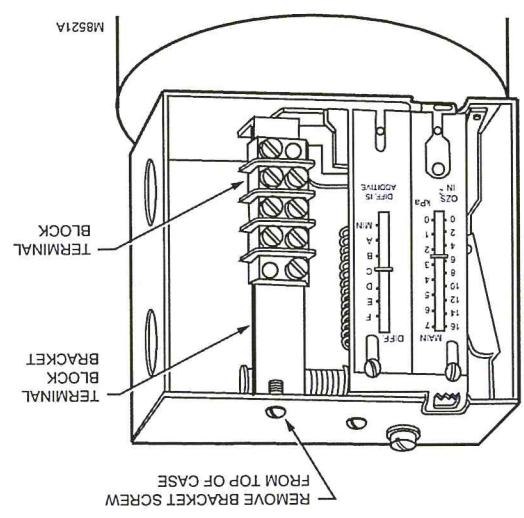
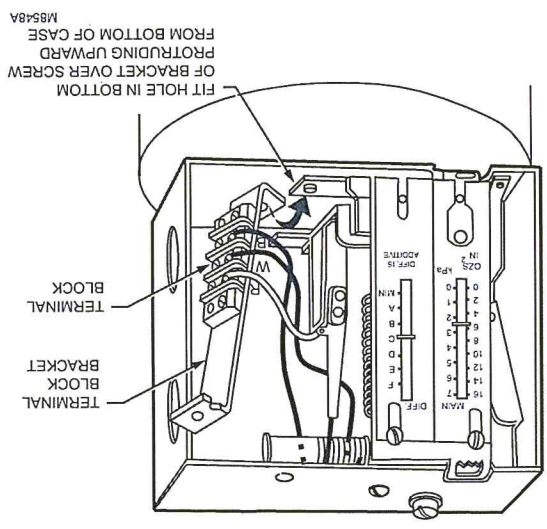
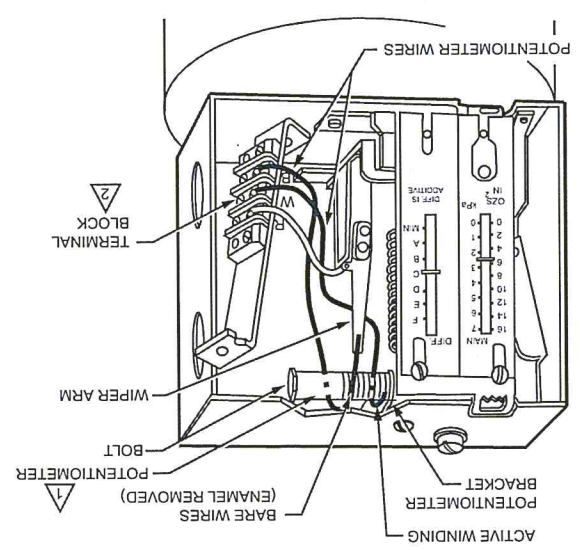

Fig. 8. Removing terminal block bracket.
Fig. 10. Replacing terminal block bracket.
Fig. 9. Replacing potentiometer in L91.
5. Connecting the ohmmeter between controller terminals W and R (Fig. 8) and raising the setpoint of the controller above the actual pressure being measured. The ohmmeter should read the full value of the potentiometer measured in step 4 (135 ohms for an L91A,B, or D).
4. Remove the screw holding the terminal block bracket to the top of the case (Fig. 8). Put this screw in a safe place because it will be needed later.
Example: In Fig. 9, the active winding is on the left half of the potentiometer; the wire from the left end of the winding is connected to the (W) terminal on the terminal block, and the wire from the right end of the winding is connected to the (B) terminal on the terminal block.
7. Loosen the (W) and (B) screws on the terminal block, and remove the two wires to the active winding of the potentiometer. Leave the wire to the wiper arm intact.
12. Connect the two potentiometer wires to the (W) and (B) terminals on the terminal block and tighten the screws. Make sure these wires are connected to the same terminals as in the old potentiometer. (Consult sketch in step 6.)
13. Carefully fit the hole in the bottom of the terminal block bracket over the screw protruding upward from the bottom of the case (Fig. 10). Insert the screw (removed in step 4) through the hole in the top of the case (Fig. 8) and into the top of the bracket, and tighten it.